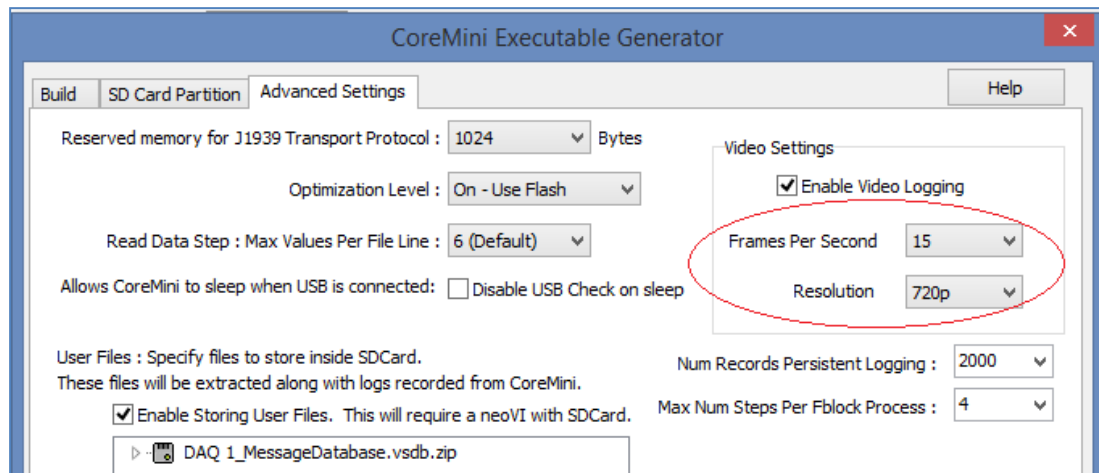

Figure 7: Settings for Video Logging in CoreMini Executable Generator
- Select 'Advanced setting' tab and configure frame per second and resolution parameter of camera (Figure 7).